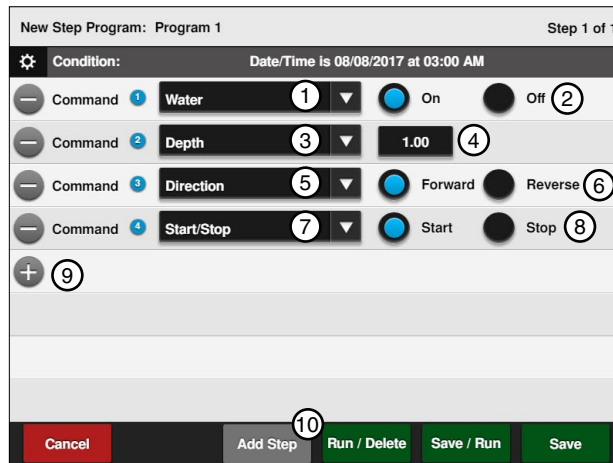

Figure 129-2 1. Water Command 6. Forward
- a) Select the **Choose Condition** drop-down menu and choose **Date/Time**. Refer to Figure 129-2.
4. Enter the commands to be executed at that time. Refer to Figure 129-2.